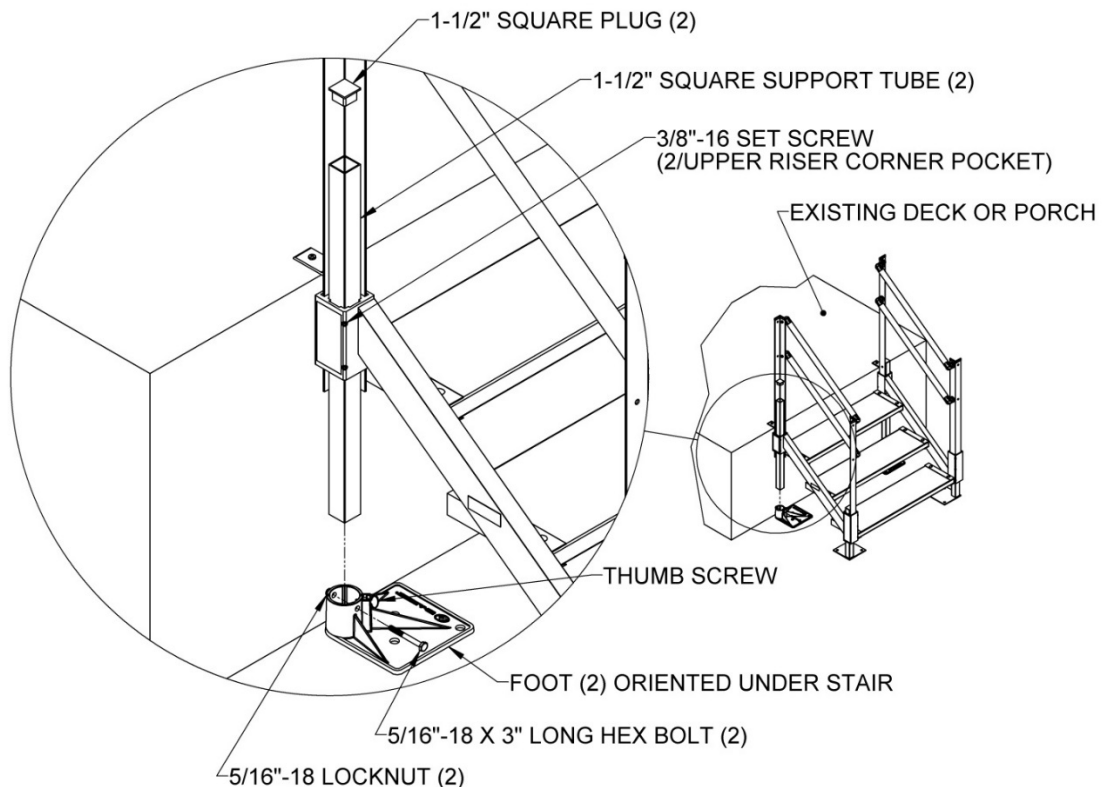

FIG. 16
- 5.1. Installation of PATHWAY STAIR SYSTEM LEG PAIRS (PSSxxxx where xxxx denotes the stair system rise) at the top is similar to installing the stair leg at the bottom but the components are not welded assemblies. First insert the 1-1/2" square support tube through the open area in the upper riser corner pocket and into the foot. The foot should be oriented either under the stair as shown (FIG. 16).
- 5.4. Tighten the 3/8"-16 set screws in the riser corner pocket securely (FIG.16).